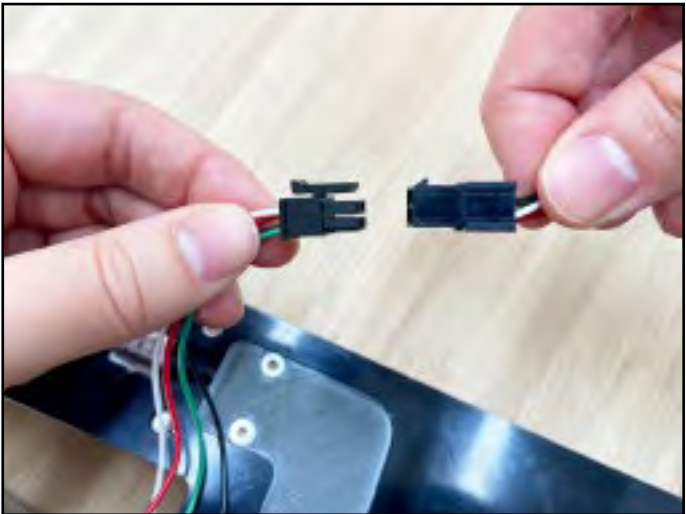

Figure 3-3
- 2. Connect the 4-pin power and the 3-pin BitSetter leads to the corresponding extension cables exiting the front of the rail. See **Figs. 3-3 and 3-4**.
- NOTE:** Connectors are polarized and will only connect one way. Do not force a connection. See **Fig. 3-3**.
- 4. Use a 4mm hex key and four (4) M6×12mm low profile SHCS to secure the endplate to the rail. Fully tighten.